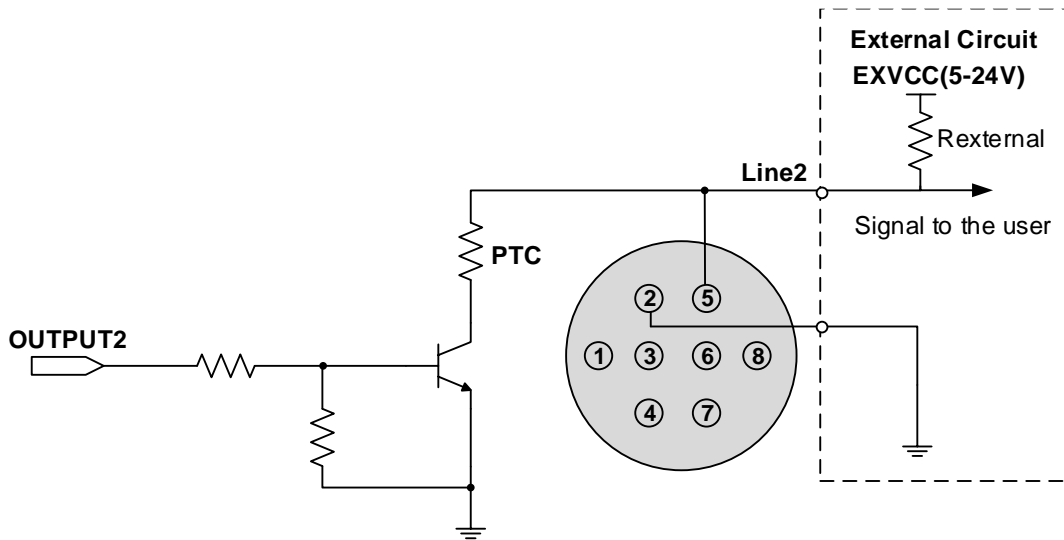

Figure 7-9 Internal equivalent circuit of camera when Line2 is configured as output
- When Line2/3 is configured as output, the internal equivalent circuit of camera is shown in Figure 7-9, taking Line2 as an example